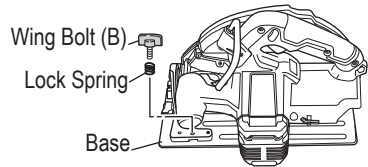

Fig. 26
11. Attaching the guide (Sold separately) (Fig. 26, 27)